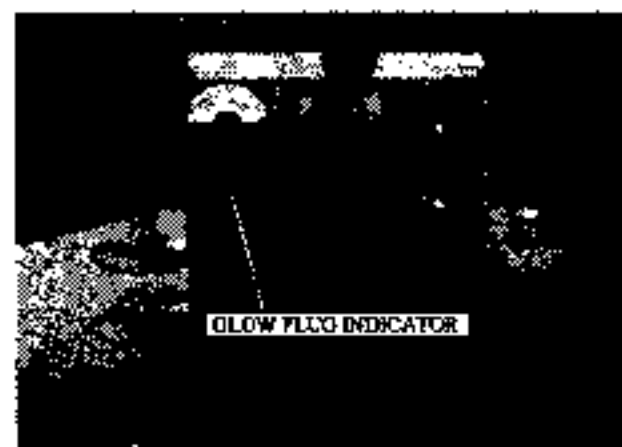

FIG. 13
- 5) Preheating: In temperatures below 32 F (0 C) it may be necessary to preheat. Turn the key all the way to the left to operate the glow plugs. The state of preheating can be observed by the glow plug indicator. See Fig 13.